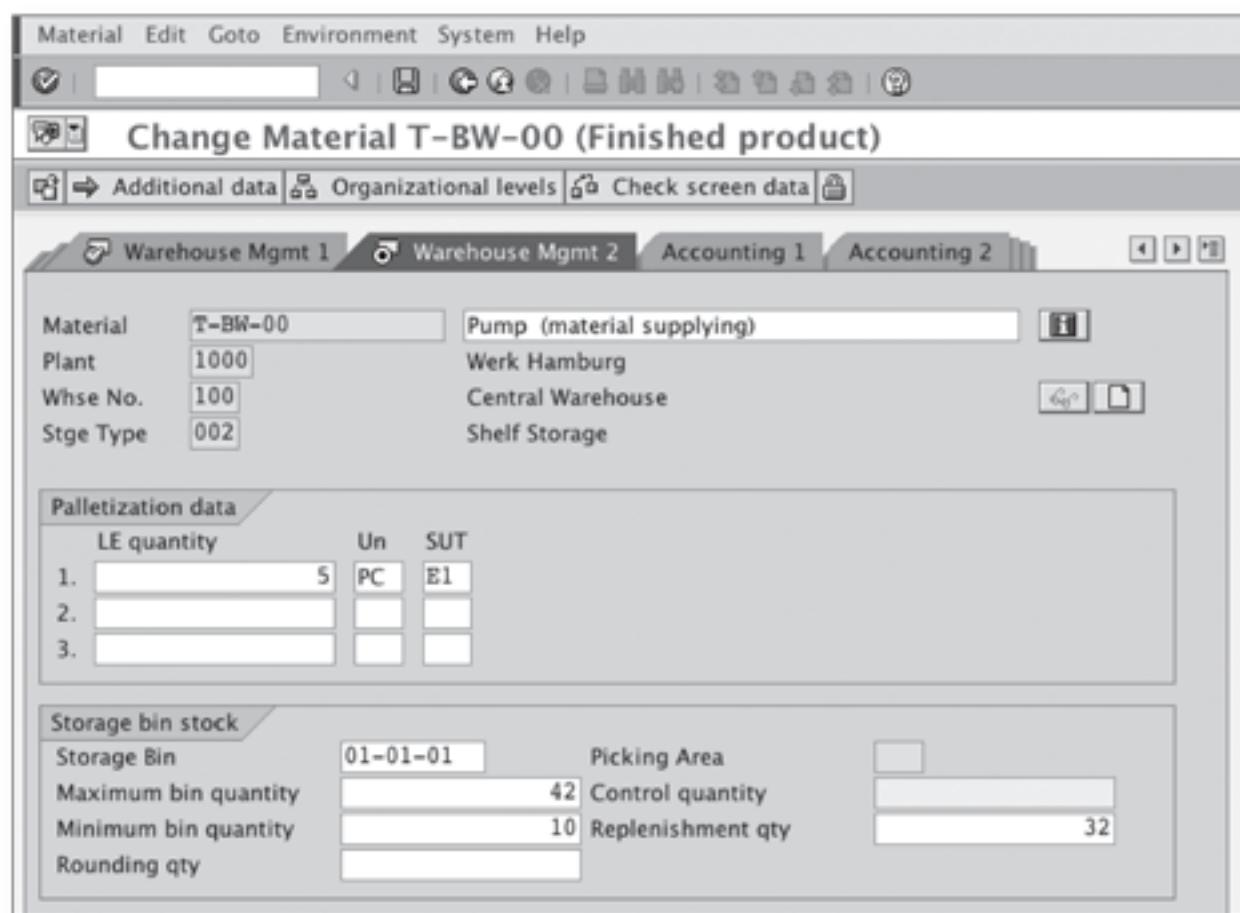

Figure 1 Storage Bin Stock Section in the Warehouse Management 2 View
If you use the search group, enter the group type (which is very important), the user that created the group, and the date on which the group was created if you know it. As a result, you'll get a screen with the list of groups that meet your search criteria (see Figure 1).
❖ Figure 1 Delivery Groups Matching the Search Criteria
When you chose this option in the menu or execute the transaction, you'll be taken to a selection screen, shown in Figure 1. Here you have several options for listing the incomplete deliveries.
❖ *Figure 1 Select the Follow-Up Documents for Which the Delivery is Incomplete*
In the selection screen, enter the delivery order number (see Figure 1). If you also enter an item number, the system will show you the change log specific to that item skipping the header change log. The screen presents additional search fields, such as USER or the very useful DATE. You can also choose between displaying the OVERVIEW or DETAIL VIEW in the DISPLAY RANGE section.
« *Figure 1 Selection Screen for the Change Log*
- In the material master, use Transaction MM01 to extend the materials you want to replenish automatically to the correct storage type. When you extend a material to the storage type level, the system will show you new fields in the WAREHOUSE MANAGEMENT 2 view (see Figure 1).
Once you've entered your selection criteria, click EXECUTE or press **F8**. You'll see a log screen (Figure 1) telling you how many deliveries were found and how many transfer requirements were created.
« Figure 1 Log for the Transaction Run
The transaction will prompt you for the PLANT, STORAGE LOCATION, WAREHOUSE NUMBER, and STORAGE TYPE that you want to replenish (see Figure 1). Enter a requirement number, and you have the options of displaying the list of materials/bins that will be replenished, or running in the background without showing the results.
❖ *Figure 1 Selection Criteria for the Replenishment of Warehouses with Random Storage Strategy*